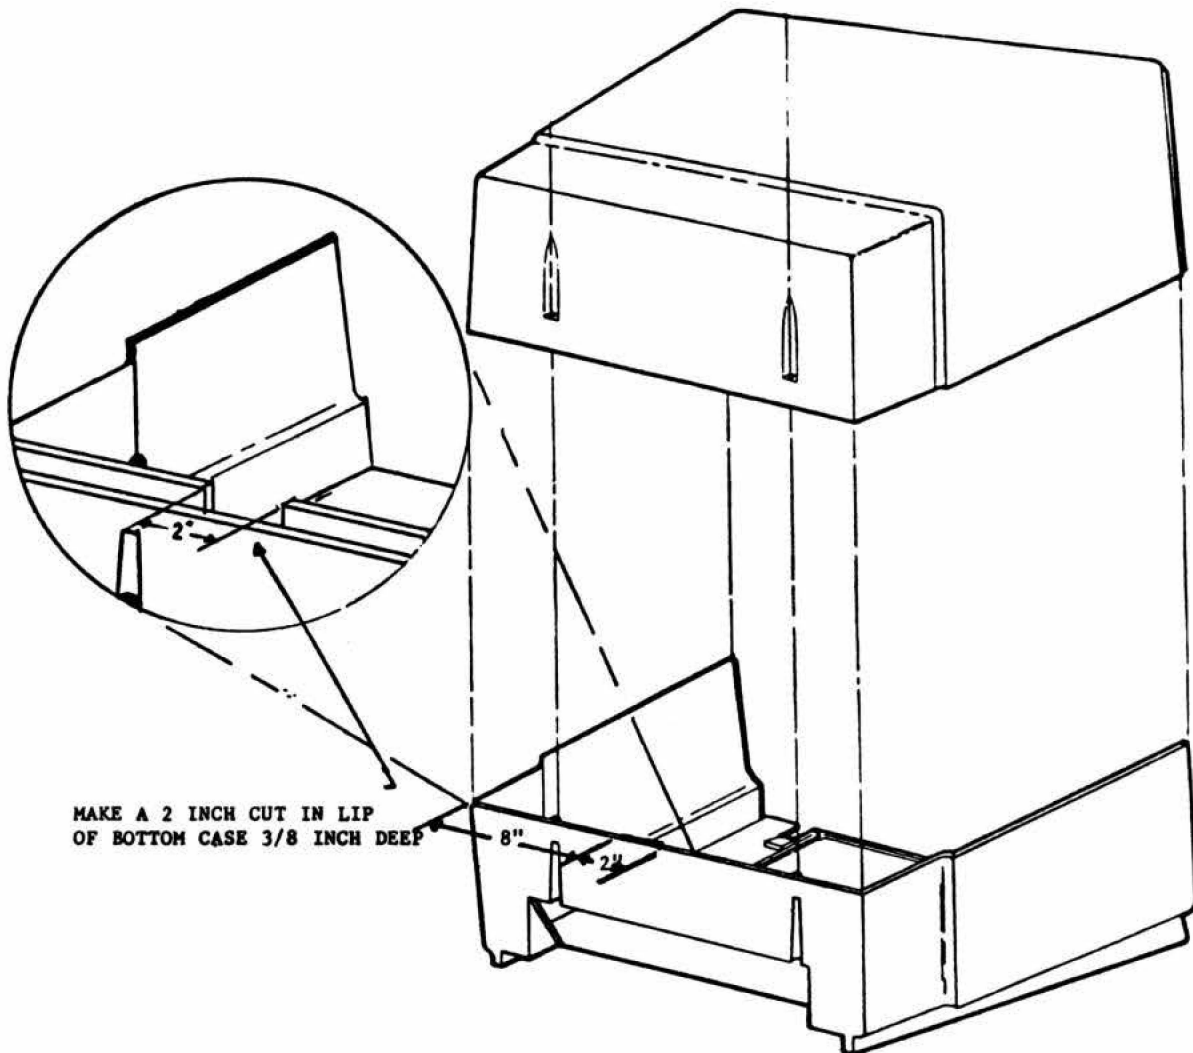

Figure 1.
2. (Refer to figure 1.) Measure 8" inches from left side (drive side) make a 3/8" inch deep cut, then measure 2" inches from first cut, and make another 3/8" inch deep cut. Cut away the two inches of plastic between the cuts. Clean the notch and make it smooth as possible.
3. Install Multi-terminal Interface board in #4 slot of card cage (**count from the Z-80 CPU board to the left.**) The proper slot positions should be filled as follows: (1) Z-80 CPU Board (2) FDC Board (3) Hard Drive Interface Board (4) Multi-terminal Interface Board (5) Video Board (6) 64K Memory Board (7) 68000 CPU Board (8) 16-Bit Memory Board, reading from right to left as you are facing the rear of unit looking at the card cage. If there is a board in #4 slot move all boards to the left leaving the #4 slot open for the multi-terminal board.